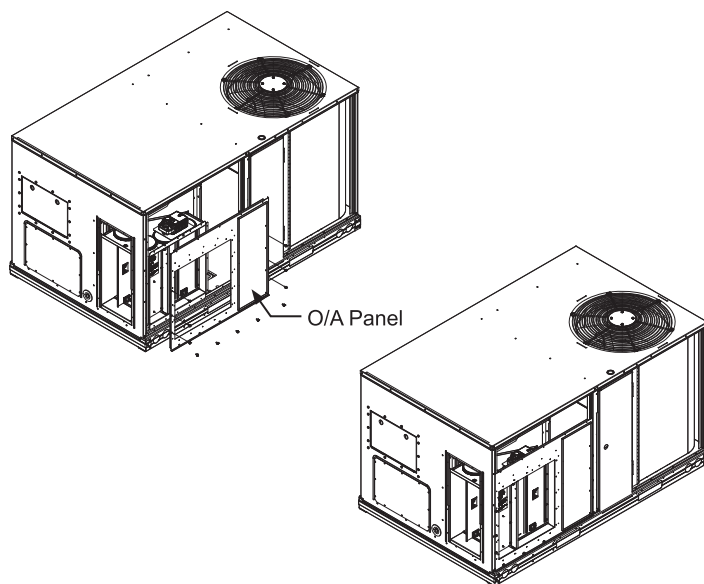

Figure 5 – Attach O/A Panel
Step 7: Lift economizer so I.D. of economizer matches I.D. of economizer cut out in panel. See **Figure 5**.
Step 9: After economizer is attached make sure return section of economizer fits snug and square in horizontal section of the RTU. See **Figure 5**.